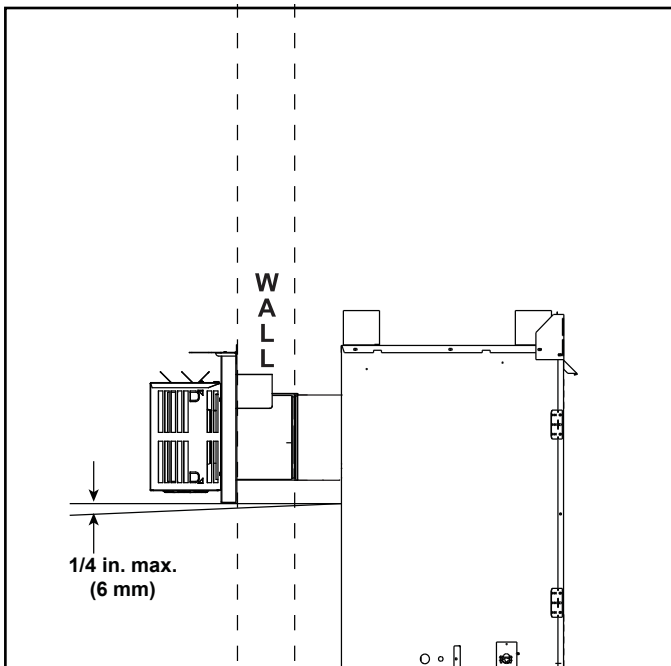

Figure 4.10
- Horizontal termination cap should have a 1/4 inch downward slant to allow any moisture in cap to be released. See Figure 4.10.